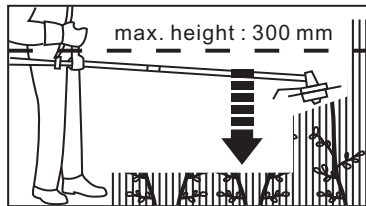

Fig. 16
4. Never hold the cutting head higher than your hip; the higher you hold the cutting head will increase the risk of objects being thrown. (See Fig. 16)